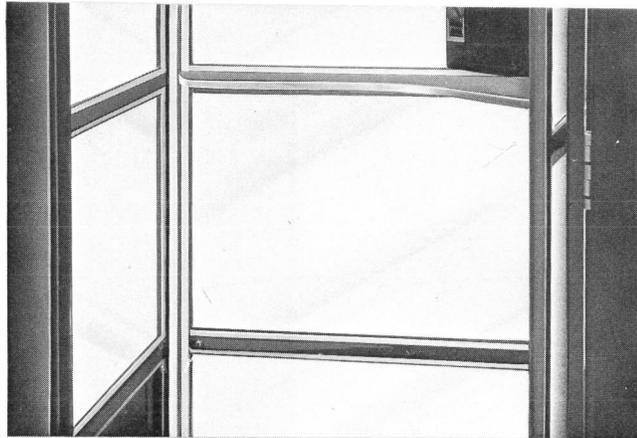

Fig. 10 – KS-16797, List 76 Shelf Installed
7.02 *KS-16797, List 76 shelf* (Fig. 10), used when a directory rack is not required, is located along the back of the booth under the backboard. Install as follows: